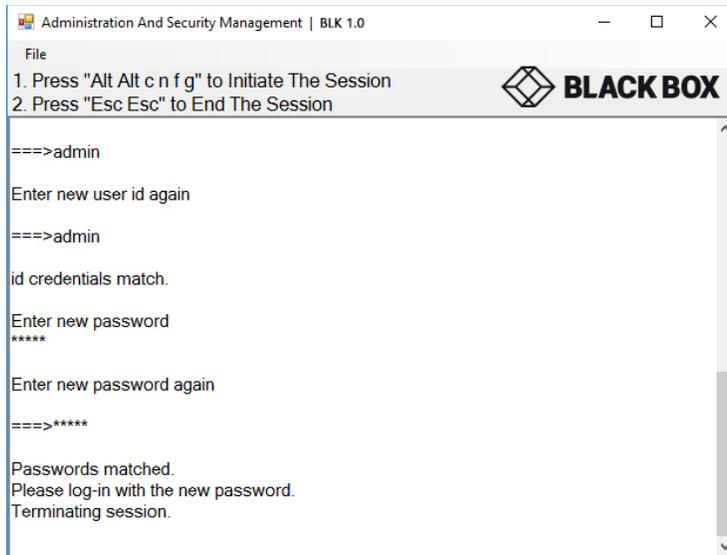

Figure 4: Admin Change Admin Credentials
- Figure 4 is a screenshot of the tool you should be seeing on your screen.